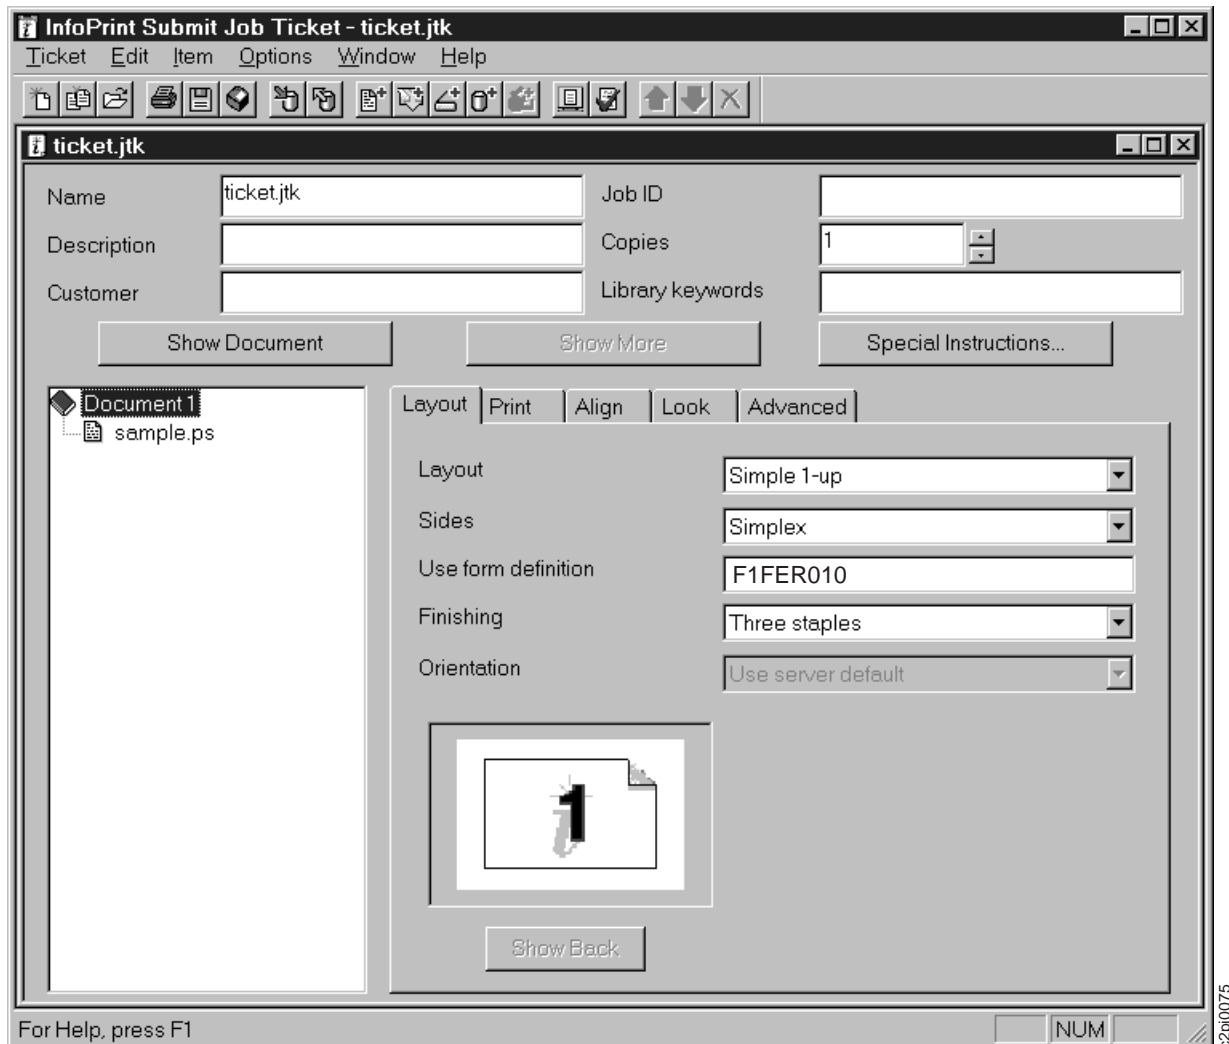

Figure 40. Edge-Stitched on Right - Layout Tab
1. In the InfoPrint Submit Job Ticket window (Figure 40), insert the files to be printed or finished: